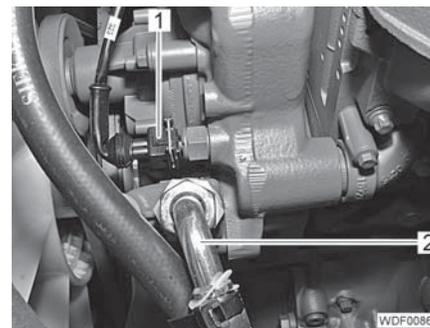

Fig. 52 Connections on right-hand side
- Screw the hydraulic line (Fig. 52,2) onto the connection on the engine and tighten.
- Attach and lock the connector (Fig. 52,1) to the temperature sensor.